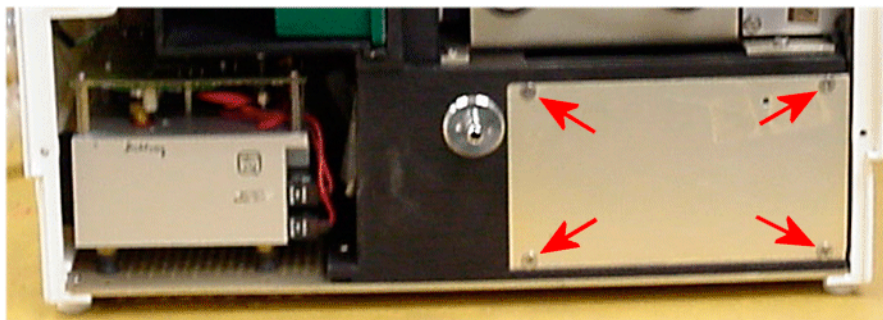

Figure 20 Rechargeable batteries cover
9. Remove the cover fixing screws and remove the cover (Figure 20).